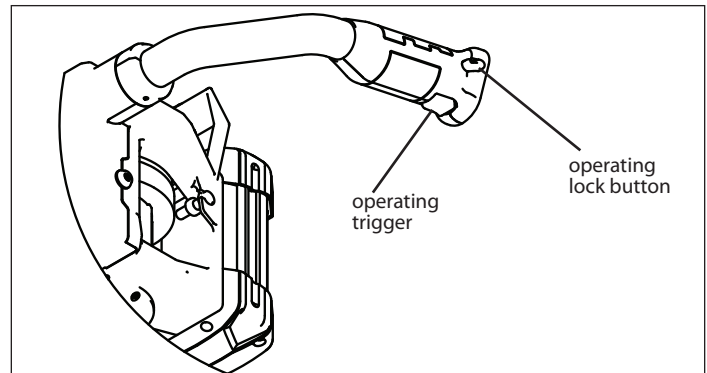

Figure 3
2. Slide the operating lock button, then squeeze the operating trigger. Following a two-second safety delay, the auger will then start drilling. **SEE FIGURE 3.**